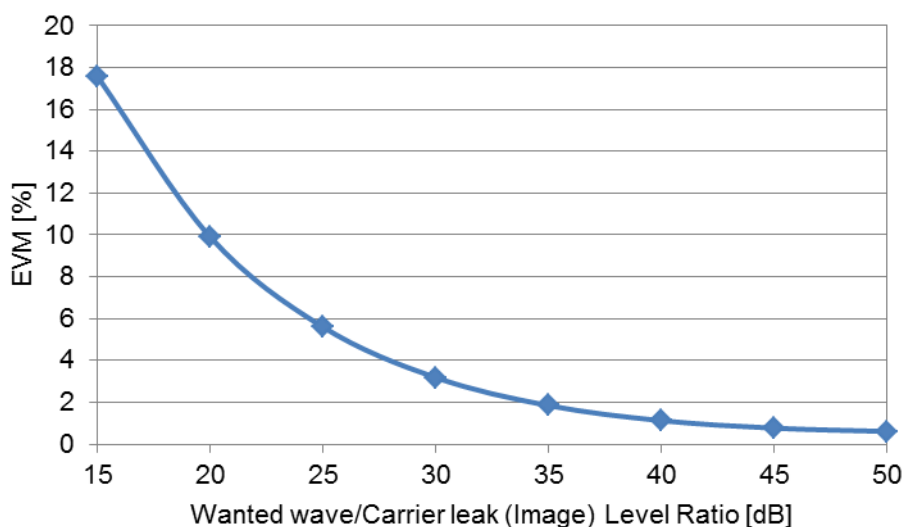

Figure 8. EVM Changes due to Spurious (Measurement Value)
Figure 8 plots the distribution of the Continuous Wave (CW) predicted by the carrier leak and image for the center frequency of the required wave (W-CDMA) and the change in the Error Vector Magnitude when the CW level is changed.